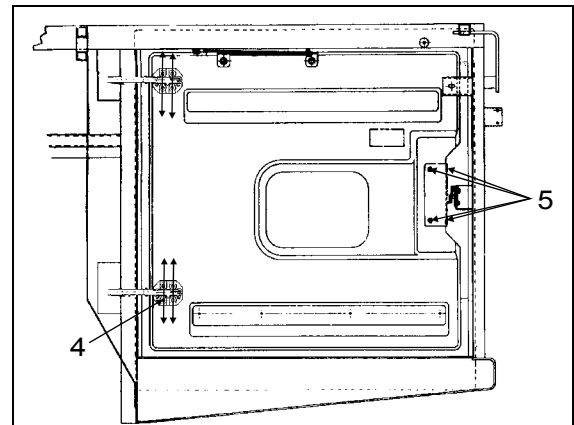

FIGURE 62: ENGINE COMPARTMENT R.H. DOOR
8. Loosen screws (4, Fig. 62).